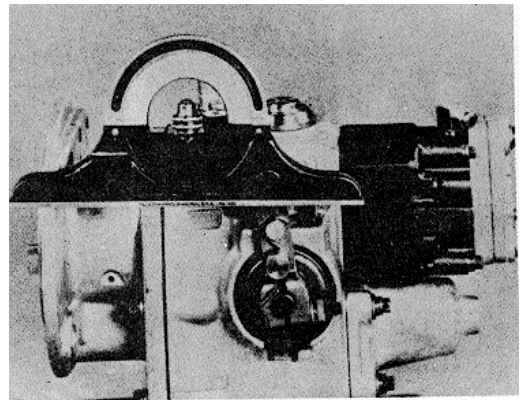

Fig. 5-1-24, F5239, Setting throttle travel with protractor
1. Using a protractor or ST-1162, set the fuel pump lever idle position centerline at 55 deg. from vertical on centerline of fuel pump throttle shaft. Lock throttle lever screw. Set the centerline of the fuel pump lever in the maximum position at 27 deg. from vertical. (Step G-2 on automotive fuel pump.) Lock rear adjusting screw. Recheck throttle lever centerline travel; it must be 28 deg., or as specified, between idle and full throttle. Fig. 5-1-24 and 5-1-25.